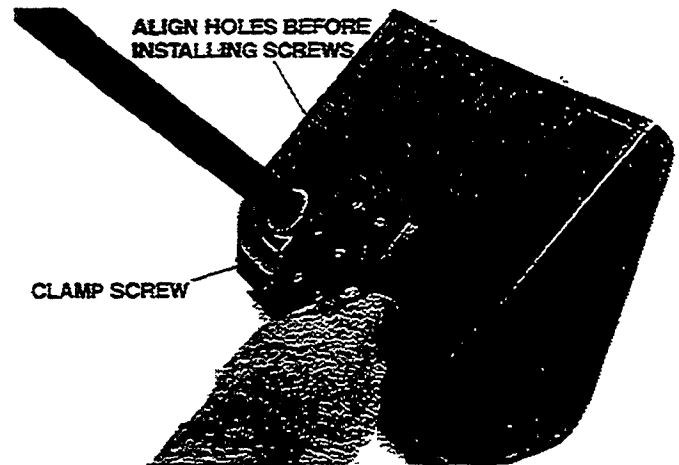

Figure 36
- Loosen the driveshaft clamp screw and remove the locking screw (Figure 36).
- Tighten the clamp screw securely with the Allen wrench supplied (Figure 36).